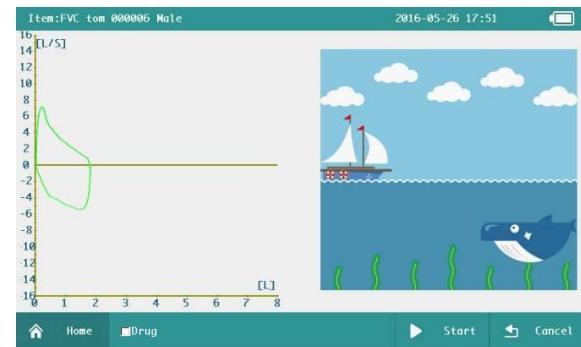

Figure 6-4
(1) In the *quick test interface* , click " " to enter the FVC testing interface , then the user can choose whether to tick the 【Drug】 button according to the condition of the drug being consumed, as shown in Figure 6-4.